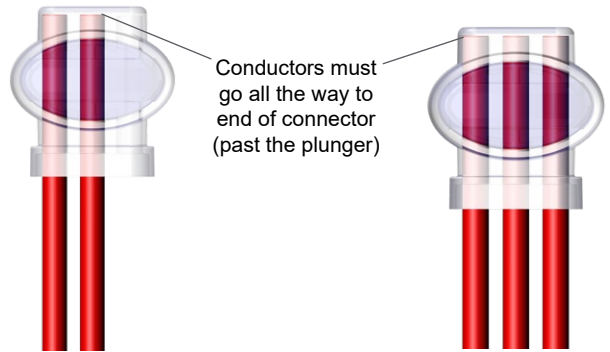
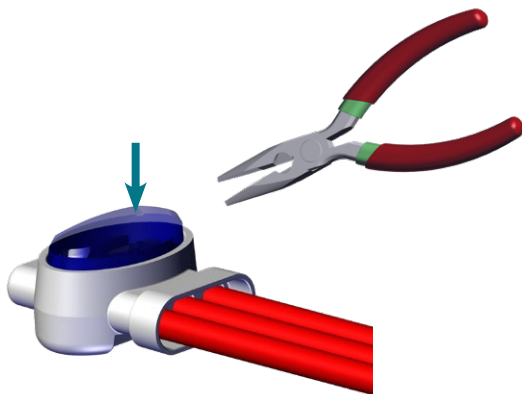

Figure 4a. CORRECT wire insertion in Scotchlok connector
Figure 5a. Depress the scotchlok plunger to fully secure the conductors
3. Fully insert positive (red) conductors into one Scotchlok connector. See Figures 4a and 4b for correct and incorrect insertion. Using pliers, firmly press the oval "plunger" to secure the wires (Figures 5a, 5b). These are single use connectors; once the plunger has been depressed the connector must be replaced if there is a problem with the connection.